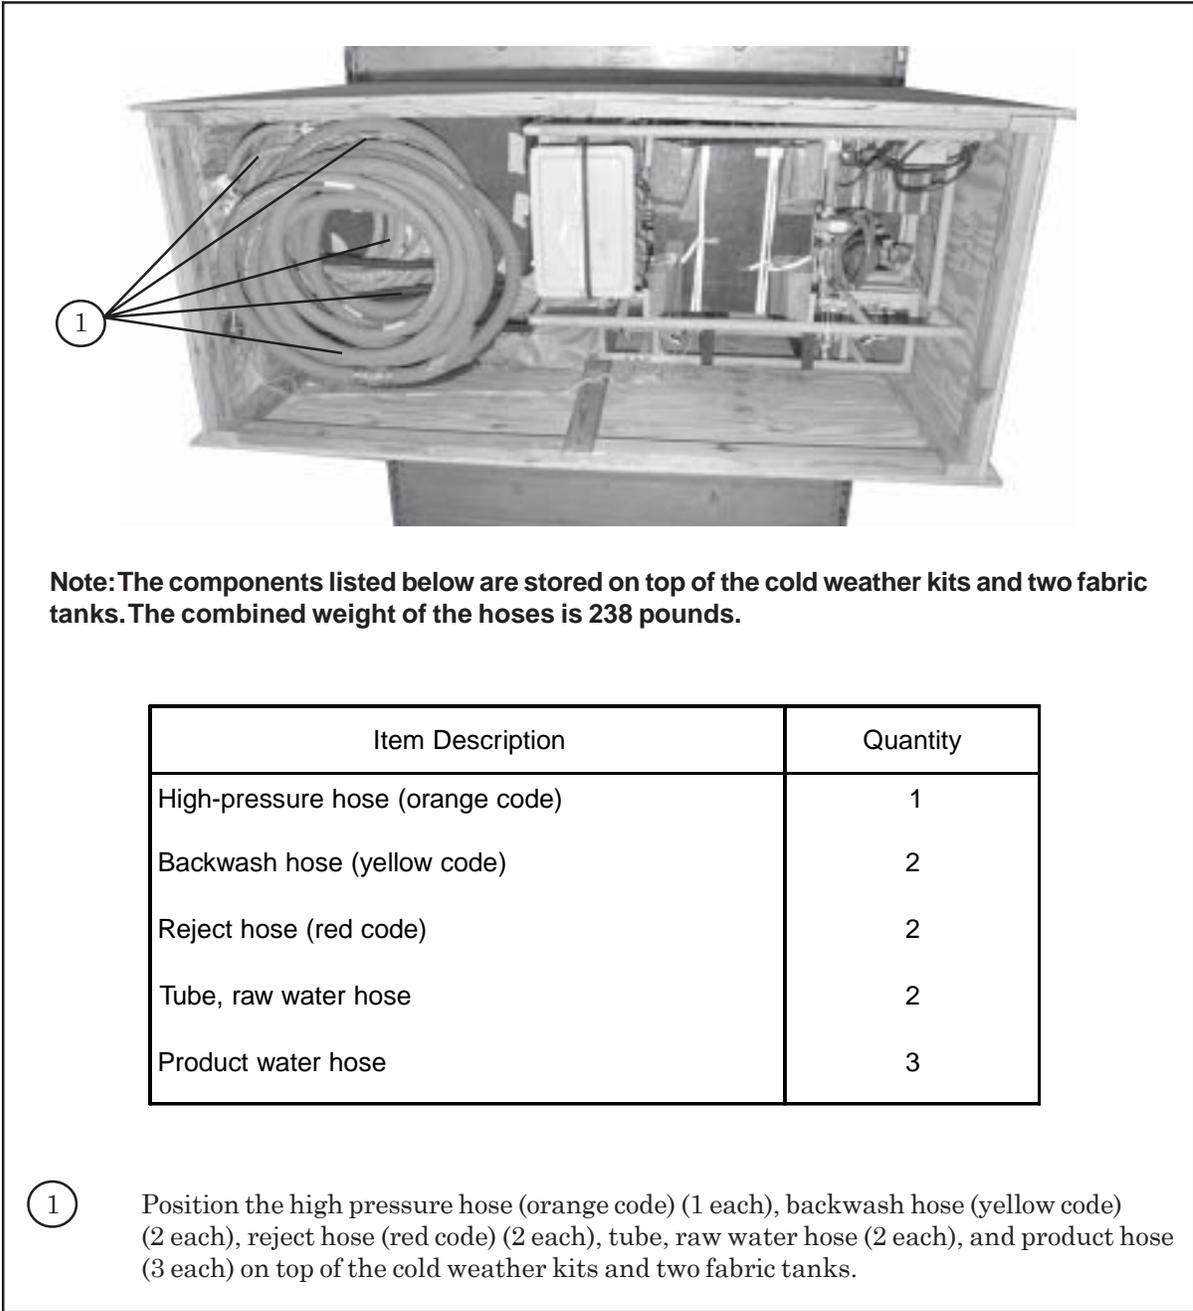

Figure 2-13. High Pressure Hose, Backwash Hoses, Reject Hoses, Tube Raw Water Hoses and Product Water Hoses Stowed
- f. **STOWING HIGH PRESSURE HOSE, BACKWASH HOSES, REJECT HOSES, TUBE RAW WATER HOSES AND PRODUCT WATER HOSES.** Stow the high pressure hose, backwash hoses, reject hoses, raw water hoses and product hoses in the container as shown in Figure 2-13.